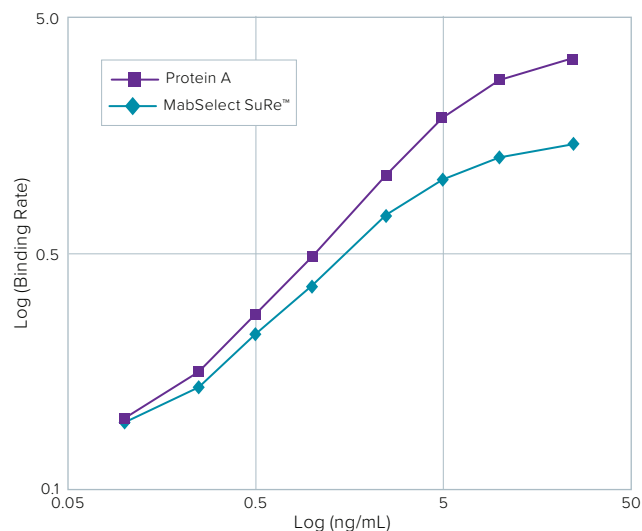

Figure 3: Comparison of standard curves for provided Protein A Standard and MabSelect SuRe™.
- 1 Selection of Protein A Standard:** The Protein A standard provided in the kit is unconjugated Pierce™ Recombinant Protein A (Thermo Scientific #21184). It functions similarly to native Protein A and can be used to accurately quantitate similar recombinant Protein A constructs. An important exception is MabSelect SuRe™ from GE Healthcare. MabSelect SuRe™ has significantly modified structure compared to more natural recombinant Protein A constructs, and is recognized differently by Protein A antibodies. These differences can result in quantitation inaccuracies against the included Protein A Standard (Figure 3).